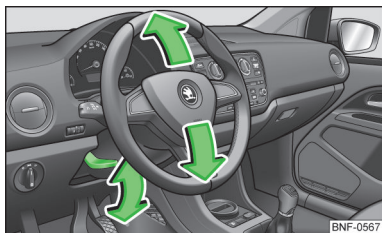

Fig. 2
- > Swivel the lever underneath the steering wheel downwards » Fig. 2.